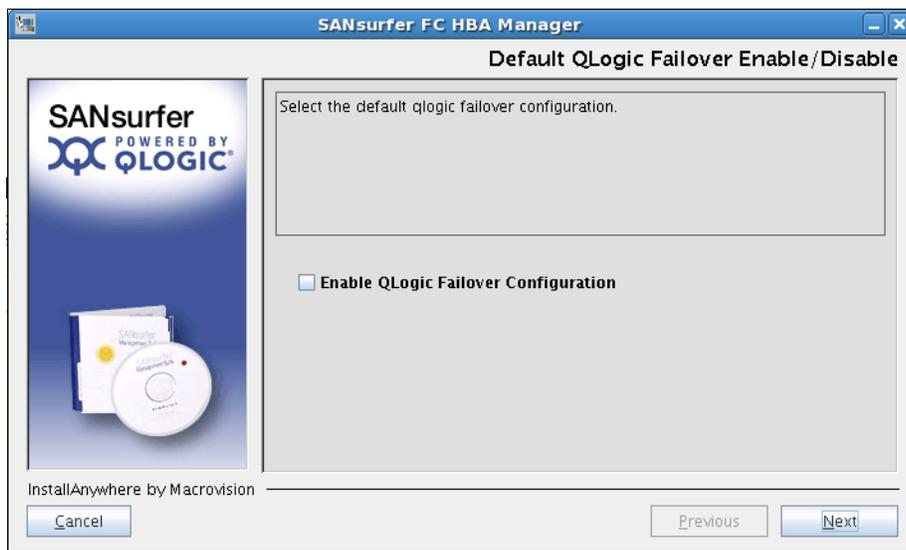

Figure 4-51 Linux SANsurfer install
4. Confirm the first windows by clicking **Next**, and select the components to install. Continue the installation process. *Do not* select to Enable QLogic Failover Configuration, because we are planning to install RDAC as the multipath driver. See Figure 4-51.